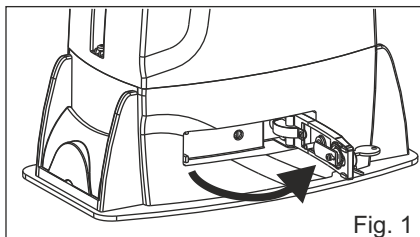

Fig. 1
1) Disconnect the power supply, release the motor (Fig. 1) and manually position the leaves or the beam on halfway (Fig. 3-4).